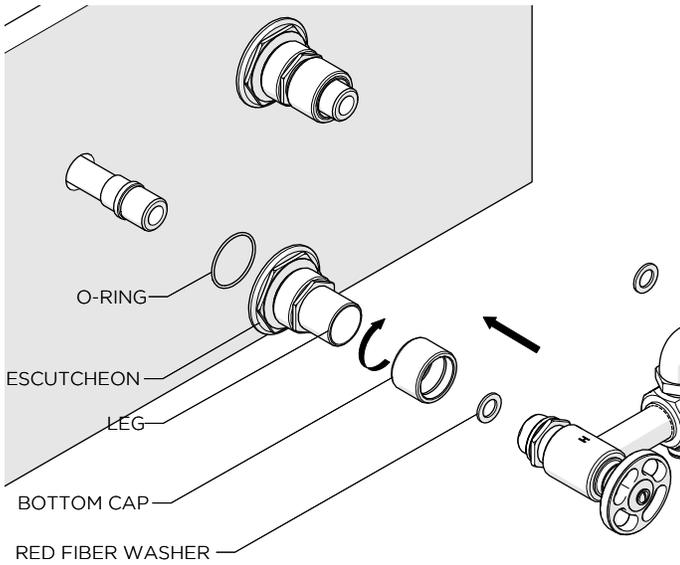
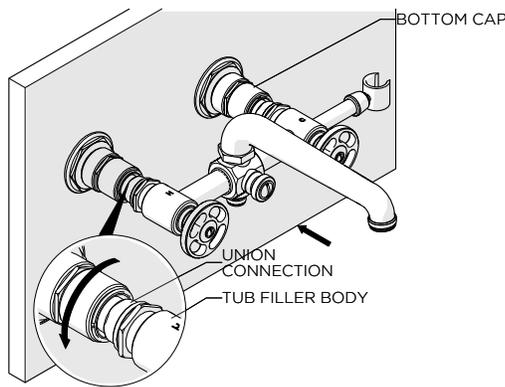

Figure 2
Figure 3
- See Figure 2 & Figure 3 for Steps 5-10.